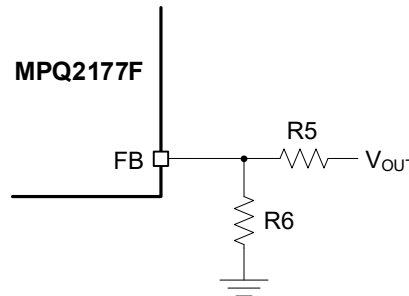

Figure 1: Feedback Divider Network with Adjustable Output
7. To use the enable (EN) function, apply a digital input to the EN pin. Pull EN above 0.9V to turn the regulator on; pull EN below 0.65V to turn it off. If the enable function is not used, EN can be connected directly to V_{IN} .
8. The external resistor divider sets the output voltage (V_{OUT}) (see Figure 1).